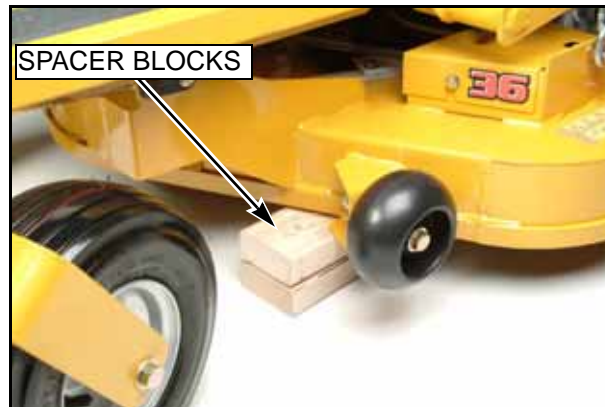

Fig. 9-36
3. Raise deck and place 3" of blocking under all 4 corners of the deck (Fig. 9-36). This will set the cutting height at 3 ¼".